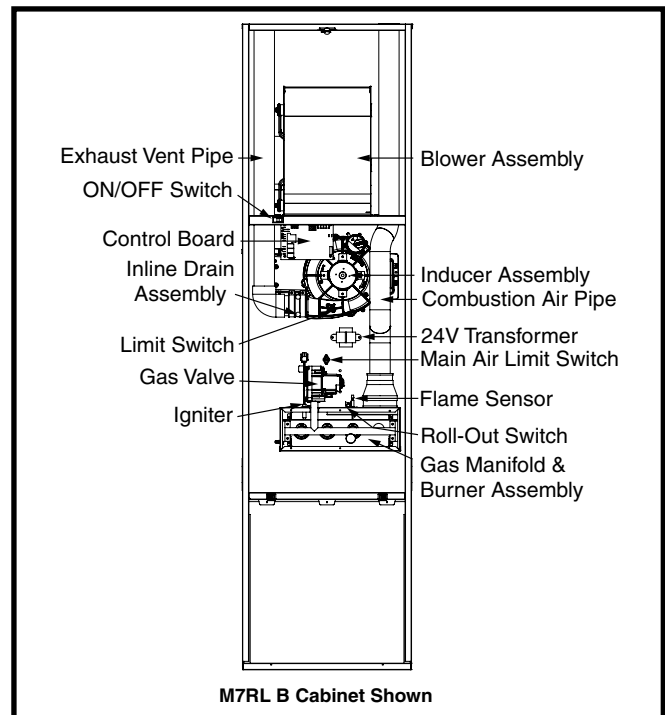

Figure 23. Furnace Components
If the burners must be cleaned, follow steps 1-12. See Figure 23 \(page 29\) for component location.
- If the inducer blower is operating, and items above have been verified, check the blower limit switch and reset if necessary. See Figure 23 for component location.
The descriptions below are various functional components that affect the operation and shutting down of this furnace. Some of these components and their locations are shown in Figure 23. If any component of the furnace must be replaced, use only factory authorized replacement parts specified in the Replacement Parts List provided online.